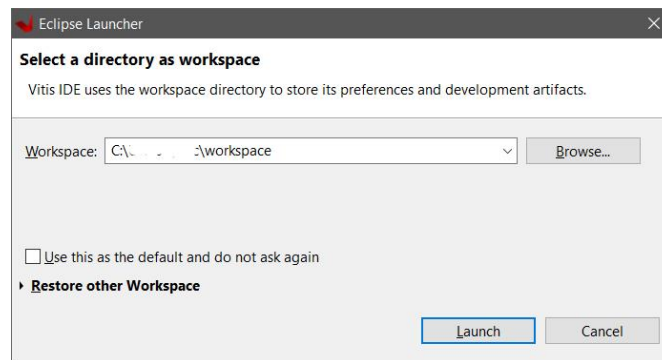

Figure 15
2. Choose the folder where you want to create the Vitis workspace and click **Launch** (Figure 15)